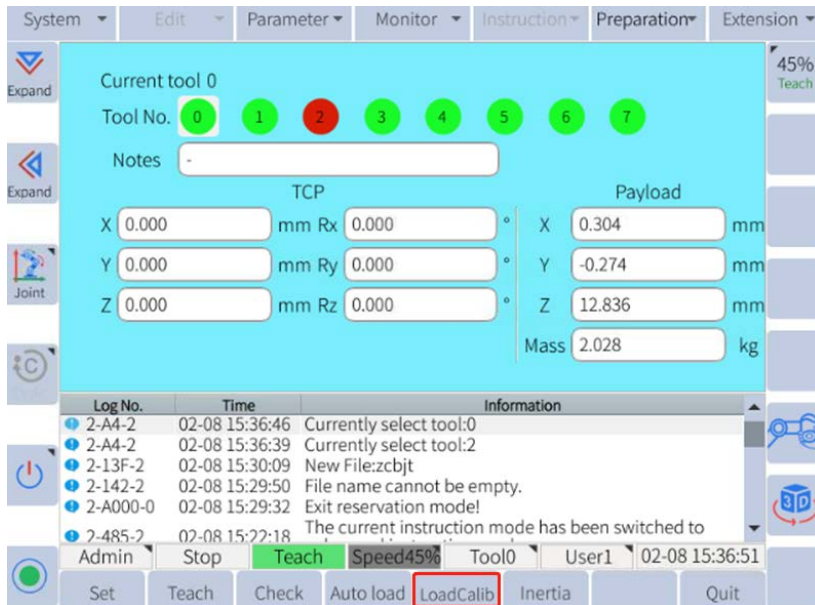

Figure 6-41: Calculations
5. Click **Calculate** in the bottom menu bar to work out the payload quality and the centroid position. Users can check the calculations by clicking the “Previous step”, as shown in **Figure 6-41**.
6. Click **Set** in the bottom menu bar and record the current payload quality and the centroid position onto the corresponding tool, as shown in **Figure 6-41**.